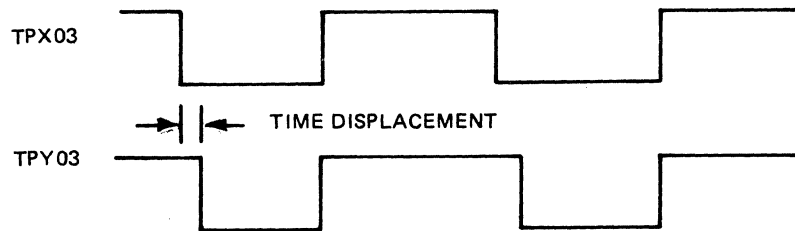

Figure 5-6. Output Waveforms (TP103, TP203, TP603, TP703)
- b. Using the maintenance switch SW1, run the tape forward. Observe the time displacement between the two signals displayed on the oscilloscope (figure 5-6). Calculate the amount of displacement (refer to table 5-4).
- b. Use the maintenance switch SW1 to run the tape forward and monitor TP203 with channel B of the oscilloscope. Record the time displacement between channels A and B (figure 5-6).
- d. Using the maintenance switch SW1, run the tape forward. Observe the time displacement between the two signals displayed on the oscilloscope (see figure 5-6). Calculate the amount of displacement (refer to table 5-4).